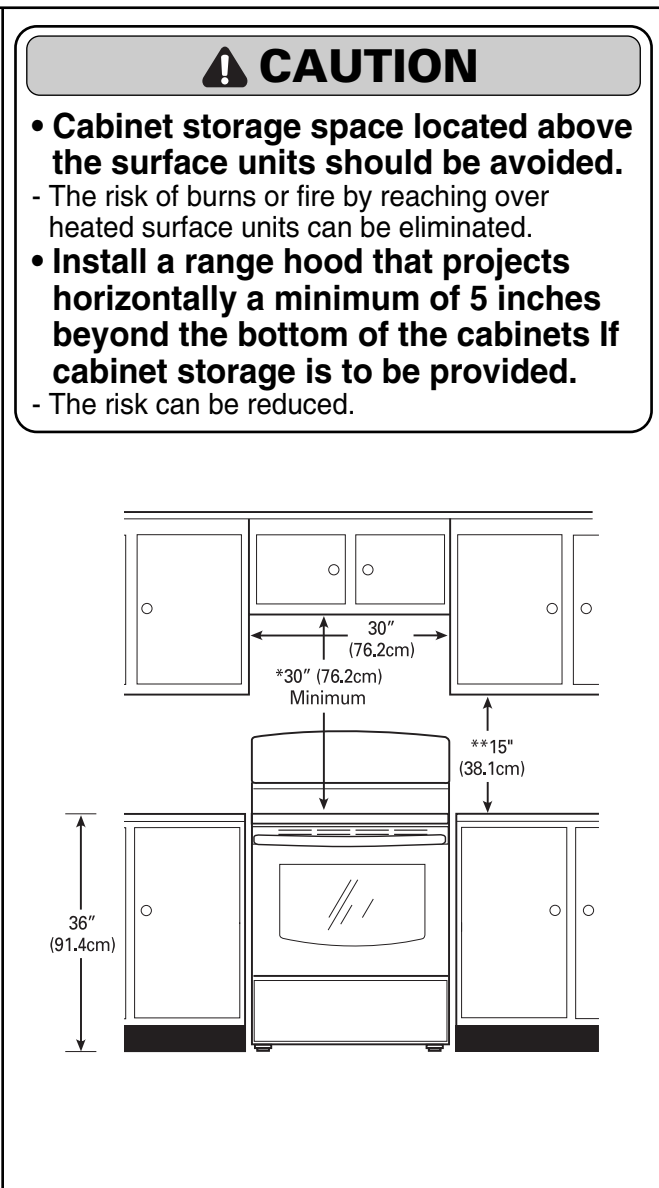

FIGURE 2
**MINIMUM DIMENSIONS (FIG. 2)**